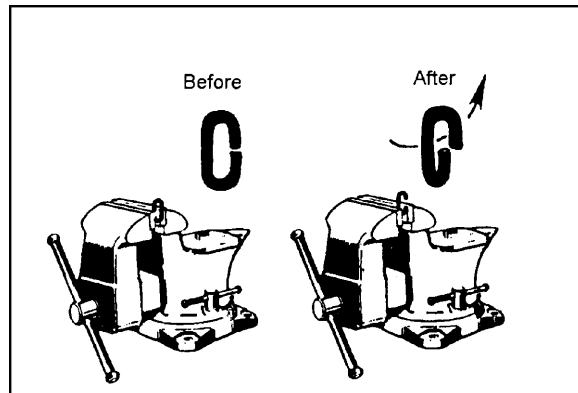

Figure 7
- Using an adjustable wrench, twist the link horizontally from front to back (Figure 7) Open just far enough to insert (or remove) a second chain link.